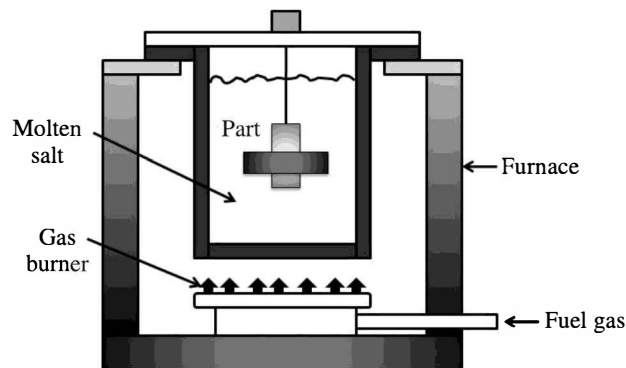

Figure 5.14 Liquid carburizing.
2. **Liquid carburizing:** This process is similar to pack carburizing, but in this process liquid is used in place of a carbonaceous material. The parts which are to be carburized are placed in liquid salt baths of molten salt containing sodium carbonate, sodium chloride and silicon carbide for a specific time (Figure 5.14). The temperature varies between 850°C–930°C.